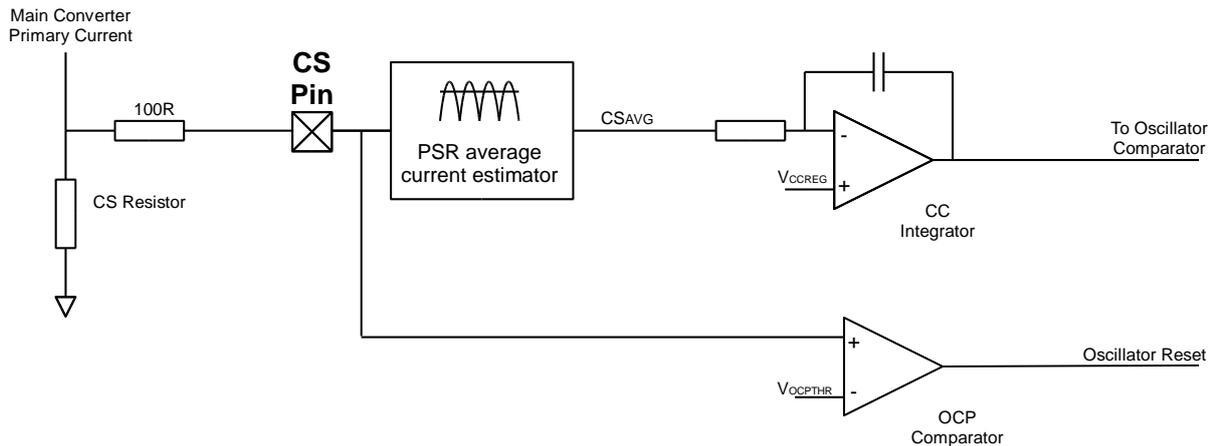

Figure 7: RED2541 Current protection and control circuits
Current regulation is used during pullup and during overload conditions. Figure 7 shows the two current control methods used in the converter:
Shown in figure 7 the signal from the CS pin is divided into two different paths. The bottom path provides peak instantaneous over-current protection (OCP) while the PSR Average Current estimation block provides the current regulation (CC) information. The voltage on the CS pin is an AC signal biased around GND. Inside the PSR block this signal is processed to provide a voltage proportional to the average converter output current.
The CC regulation circuit is shown in Figure 7. CC operation is defined by an internally compensated control loop. This provides a system response time of approximately 300us in a typical application. The average current regulation point, V_{CCREG} is pre-set to 100mV, referred to the CS pin.